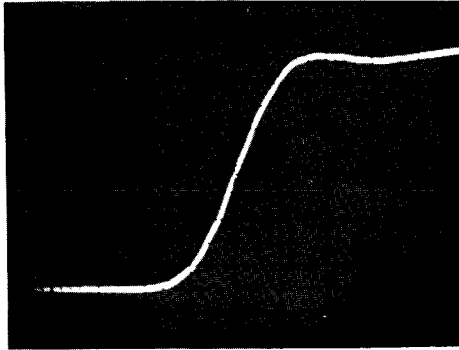

Figure 7. Pulse Period Measurement
12. Adjust time-interval STOP **18** to overlap 50% point of next pulse leading edge (for pulse period measurements) or to overlap 50% point of pulse trailing edge (for pulse width measurements) at center vertical line. (See figure 7 or 8 as applicable.)